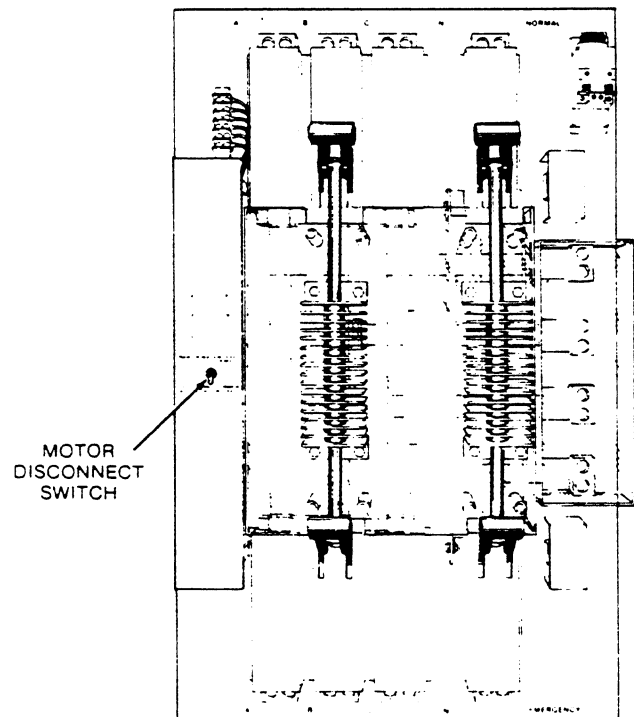

FIGURE 7.
1. Move the motor disconnect switch to the DOWN, manual operation position. See Figure 7.